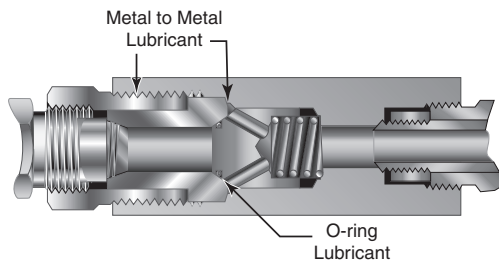

Figure 3
**4. Check Valves** - The gland nut should be lubricated on the external threads and at the end where it contacts the cover. The cover should be lubricated at the sealing surface where it contacts the body. For o-ring check valves, a small amount of o-ring lubricant on the o-ring will help swell the elastomer and aid sealing. Refer to Figure 3 for lubrication sites on check valves.